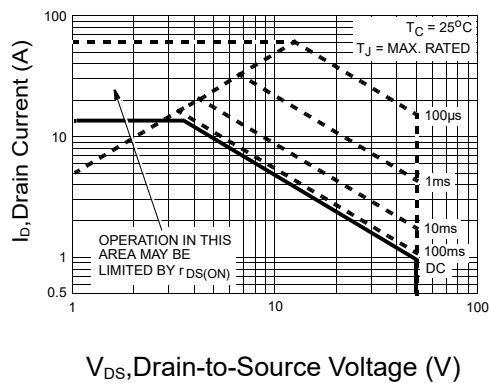
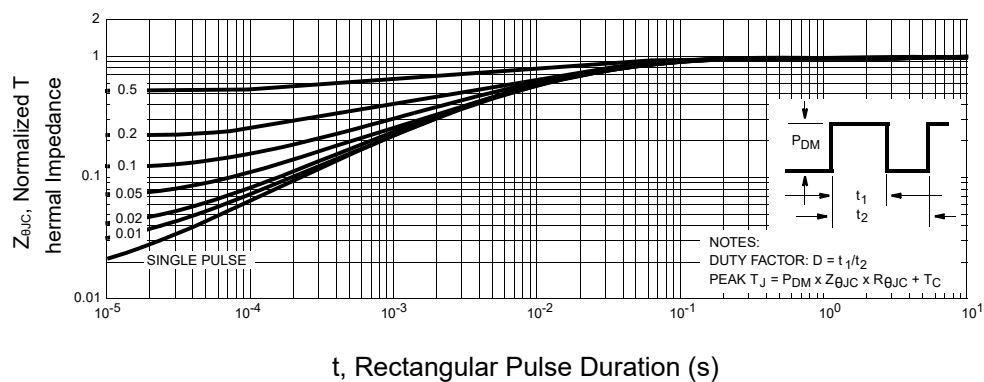

Figure 3: Forward Bias Safe Operating Area
Figure 5: Normalized Maximum Transient Thermal Impedance
3. Repetitive Rating: Pulse Width limited by max junction temperature. See Transient Thermal Impedance Curve (Figure 3) and Peak Current Capability Curve (Figure 5).